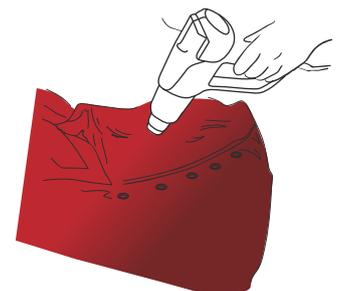

Figure 20
- › Then heat each rivet again to 80 °C - 90 °C (176 °F - 194 °F). (FIG. 20)